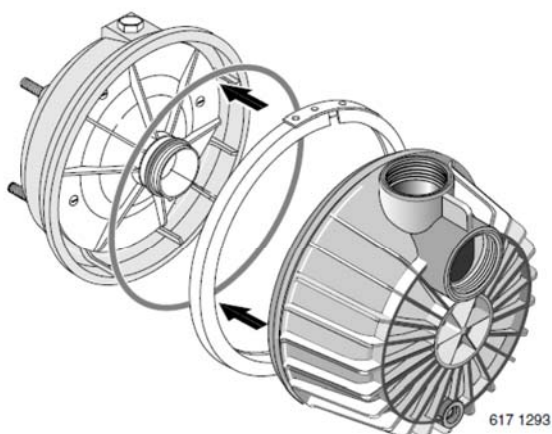

Figure 27 – Assemble Pump
2. Put O-ring in groove on face of flange; put pump halves together (see Figure 27).